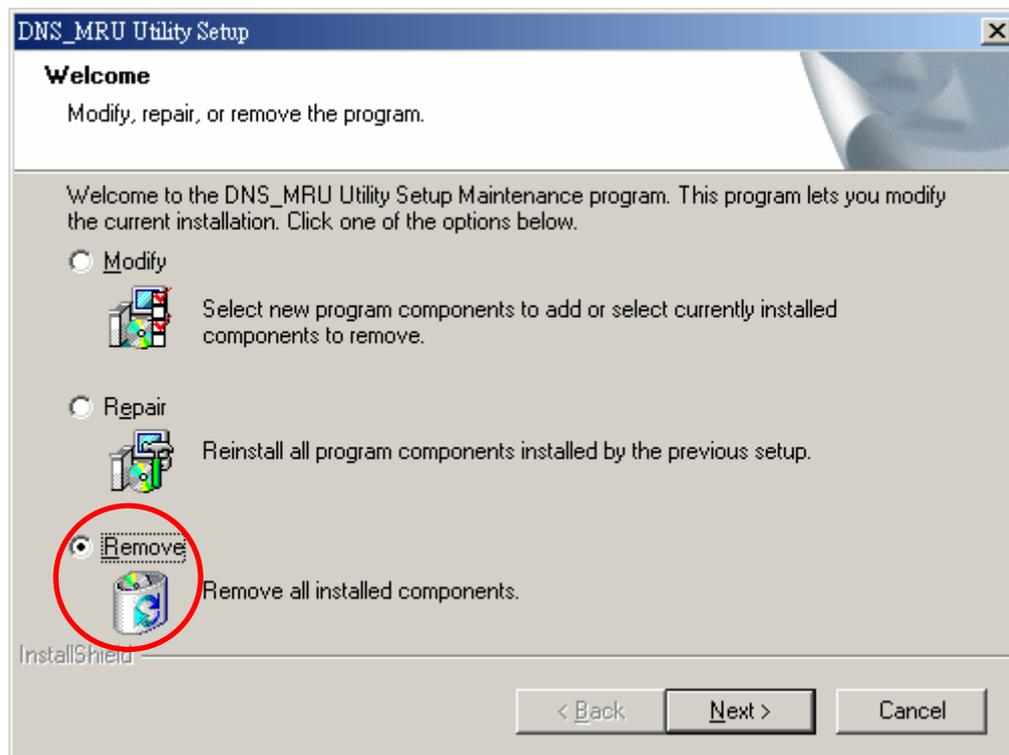

Figure 6-10 “Modify, repair, or remove the program” dialog
Step 4: Select the “Remove” option button, and press the “Next” button to remove DNS_MRU Utility. See figure 6-10.